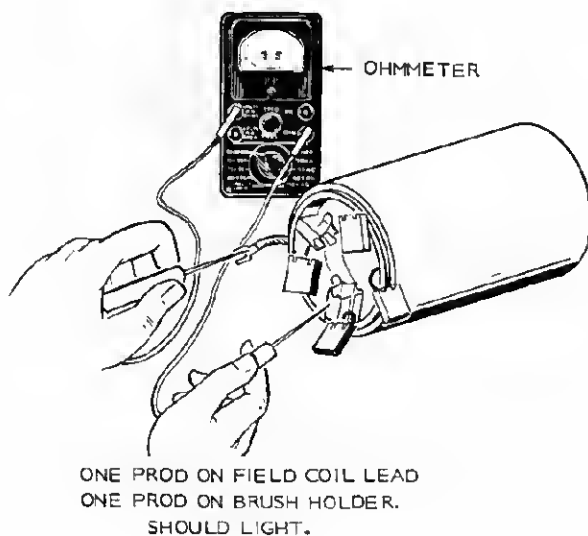

FIGURE 38. TEST FOR OPEN FIELD COIL
**Testing Field Coils for Open Circuits:** Place one prod on the connector and the other on a clean spot on the brushholder (Figure 38). If continuity is good, the field coil is good. Check all brushholders in the same manner.